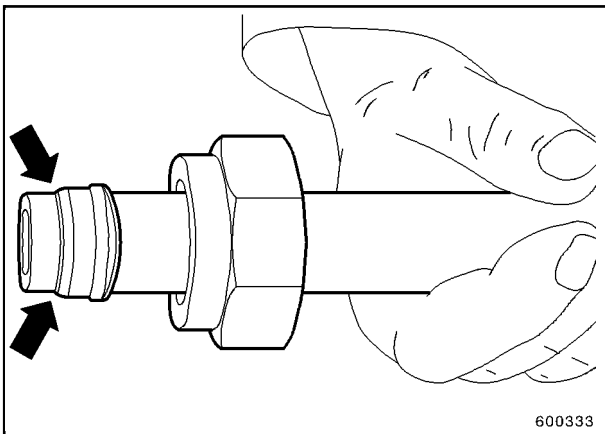

Fig. 13
8. Loosen union nut and check the cut of the cutting ring (Fig. 13).